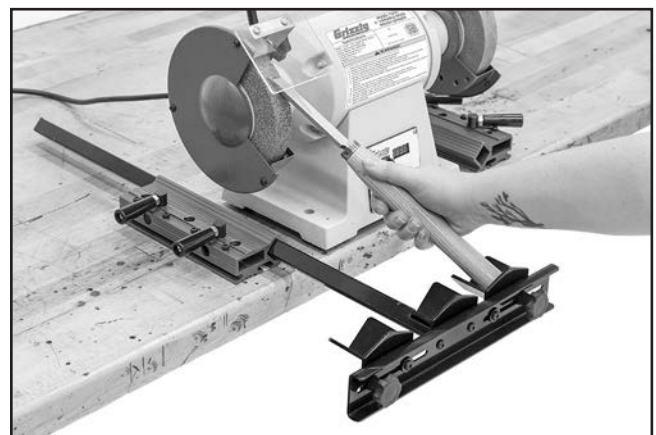

Figure 4. Example of skew attachment in use.
5. Use firm grip to return tool to surface of grinding wheel to perform grinding operation (see **Figure 4**).